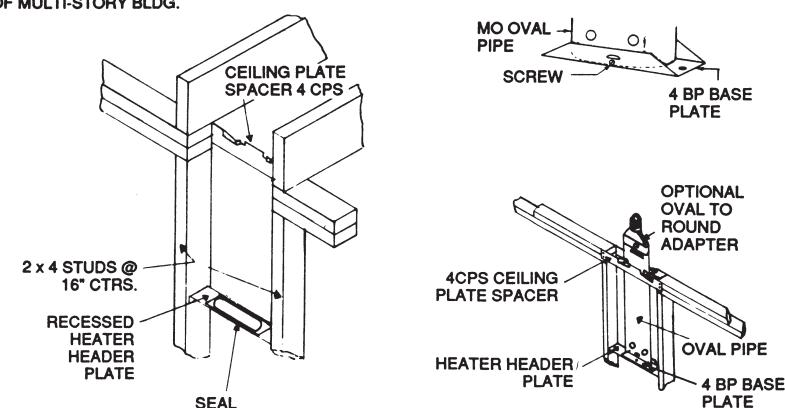

FIGURE 7
- If the installation is with a recessed heater, the 4MOK installation kit is required. At the top of the recessed heater mounted in the stud wall, the gasket is applied under the base plate from the 4MOK. The base plate is screwed to the heater outlet. The base plate has provisions to allow 4BW vent to snap in place. At the ceiling level, the ceiling plate spacers are mounted to maintain proper clearances to combustibles. At this point the installation is the same as explained earlier (See Figure 7).